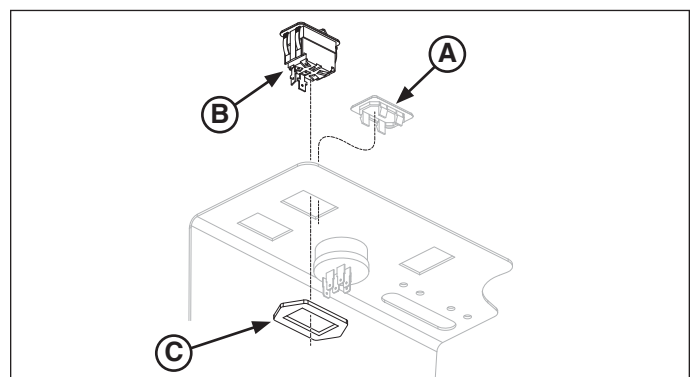

Figure 3. Installing the Headlight Switch
- Remove the plug (**A**, **Figure 3**) from the control panel and install the headlight switch (**B**) using the retainer (**C**) to secure it in place.